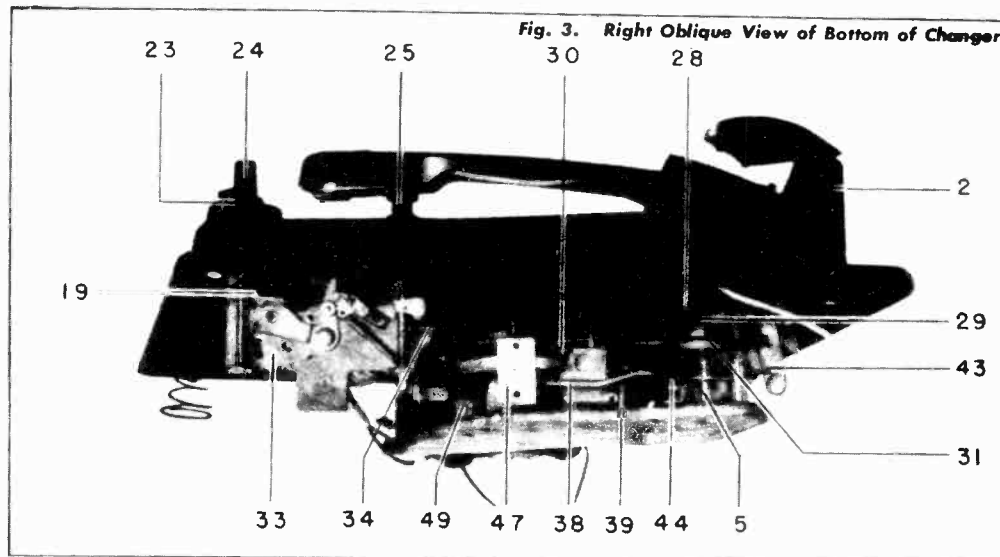

Fig. 3. Right Oblique View of Bottom of Changer
2. Pick-up arm shaft (5), see Fig. 3. Apply one drop each to bottom bearing point, bracket hole, and hole through main base plate.
4. Knife edge of raising lever (38), see Fig. 3.